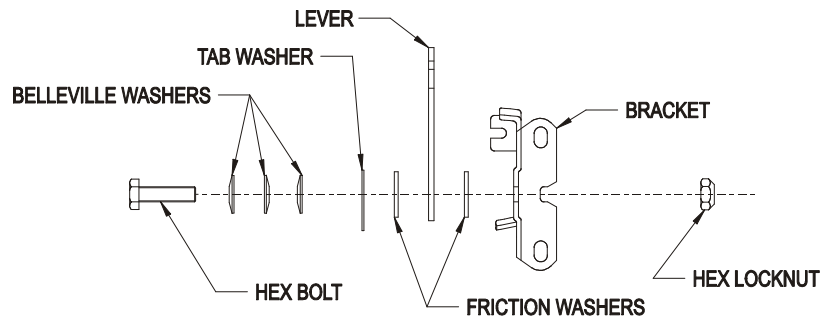

FIGURE 13
- Tension in throttle lever can be adjusted by adjusting the tightness of the lever pivot bolt, which is located under the console. See Figure 13.